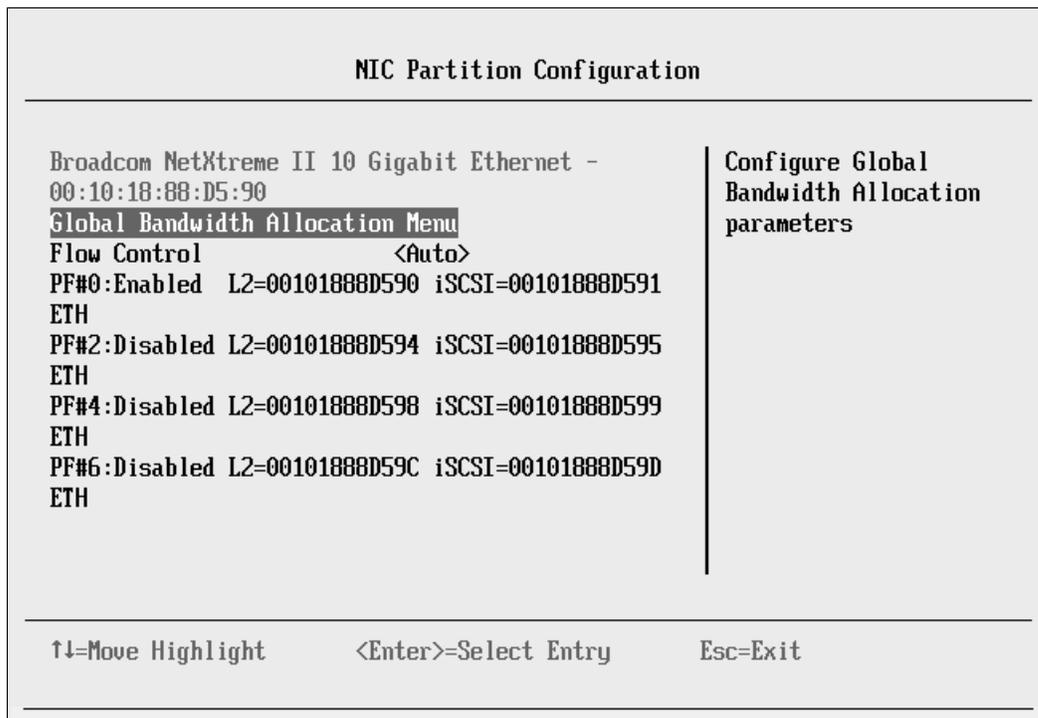

Figure 9-8 NIC Partition Configuration panel
10. In the NIC Partition Configuration panel (Figure 9-8), click **Global Bandwidth Allocation Menu**.